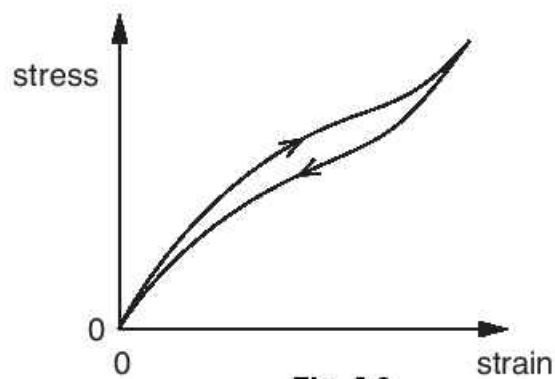

Fig. 5.2
- (b) The walls of the tyres on a car are made of a rubber compound. The variation with stress of the strain of a specimen of this rubber compound is shown in Fig. 5.2.
As the car moves, the walls of the tyres bend and straighten continuously. Use Fig. 5.2 to explain why the walls of the tyres become warm.